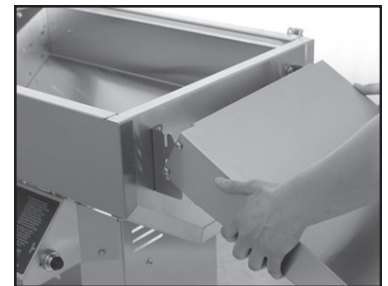

Fig. K-2
- Place the left bottom shelf post into the left bottom bracket slot as shown in **(Fig. K-2)**. Gently spread the shelf apart to insert the right bottom shelf post into the right bottom bracket slot. Secure bottom posts with Nylock Nut—making sure nuts are snug but do not restrict the movement of folding and unfolding of the shelf.